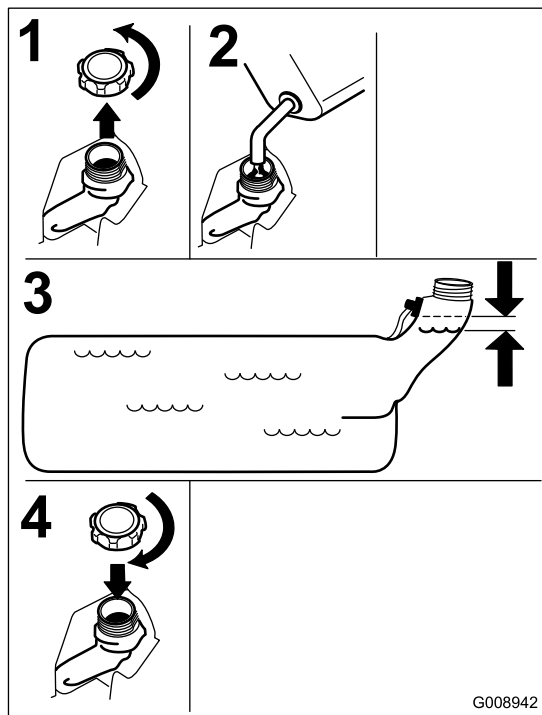

Figure 7
3. Fill the fuel tank. Ensure there is space below the breather valve as shown in Figure 7.